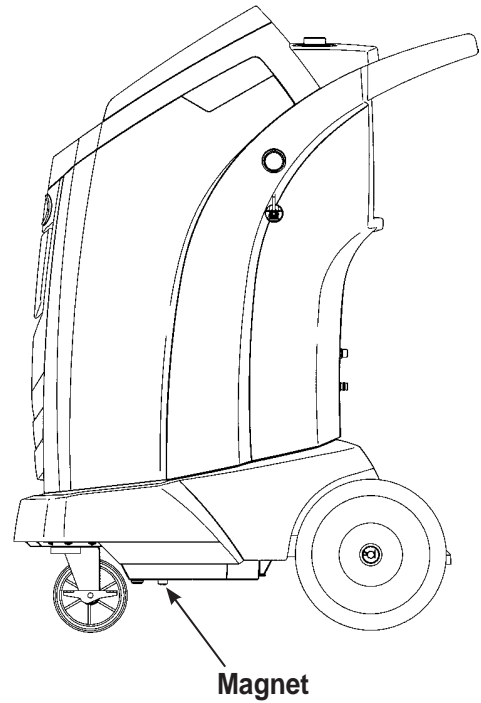

Figure 12
1. Refer to Figure 12, and verify the magnet on the bottom of the machine is clean.